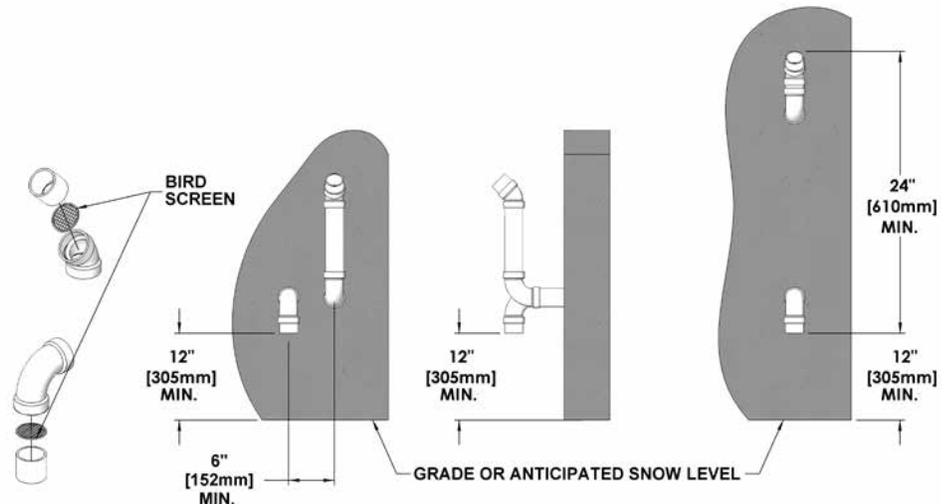

Figure 5: Sidewall vent termination - piping configuration
- The elevation of both pipes can be raised in "periscope style" after passing through the wall, then configured as in Figure 5, to gain required clearance.